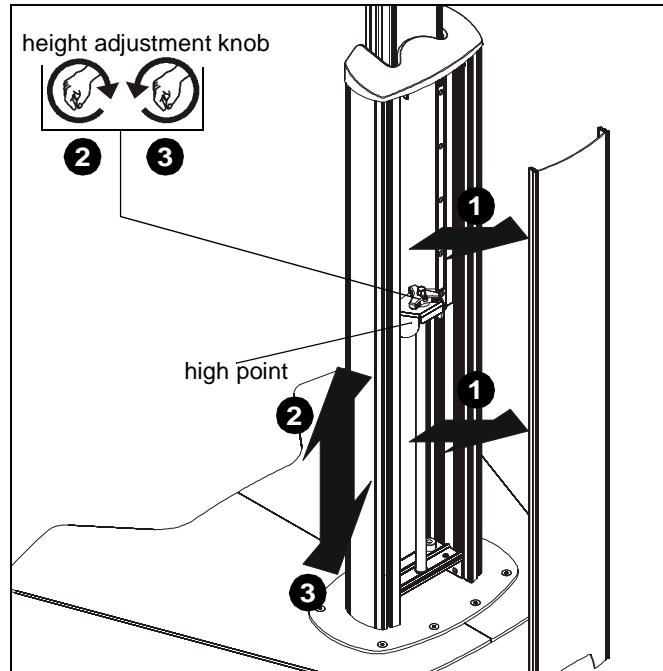

Figure 11
1. Remove cable cover (G) to expose height adjustment knob.
2. Turn height adjustment knob clockwise to raise display. (See Figure 11)
3. Turn height adjustment knob counterclockwise to lower display. (See Figure 11)
**WARNING:** Do not attempt to raise or lower the adjustment carriage beyond its upper or lower limit. High and low points are shown in Figures 11 and 12.
4. Reinstall cable cover (G) to column assembly.